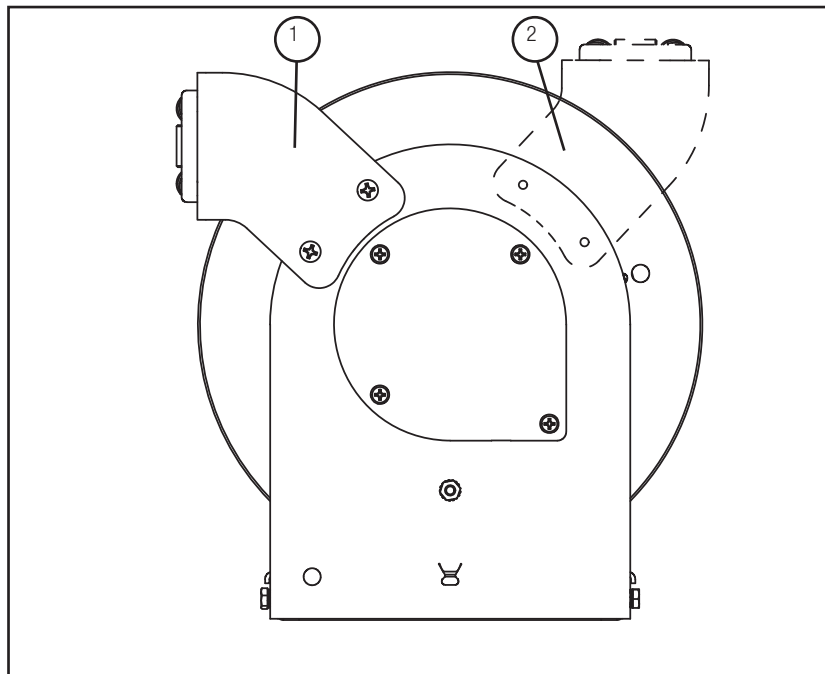

Figure 3-3: Guide arm positions
2. Unscrew the two Phillips screws. See **Figure 3-3**.
In Figure 3-3, Position 1 shows the correct position for a wall mount, and Position 2 is the correct position for a ceiling mount. If arm orientation isn't correct, the clutch will slip and the reel will be unable to retract the cable due to its weight.